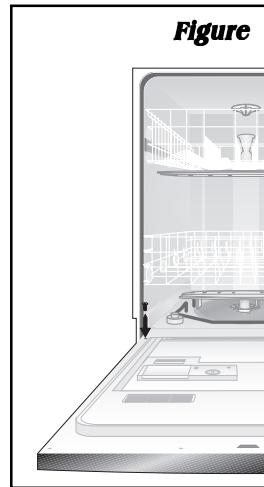

Figure 16a
1. Unlatch and open door. Using a Phillips head screw driver, remove two (2) screws from inner door. Save screws to reassemble. See Figure 16a.